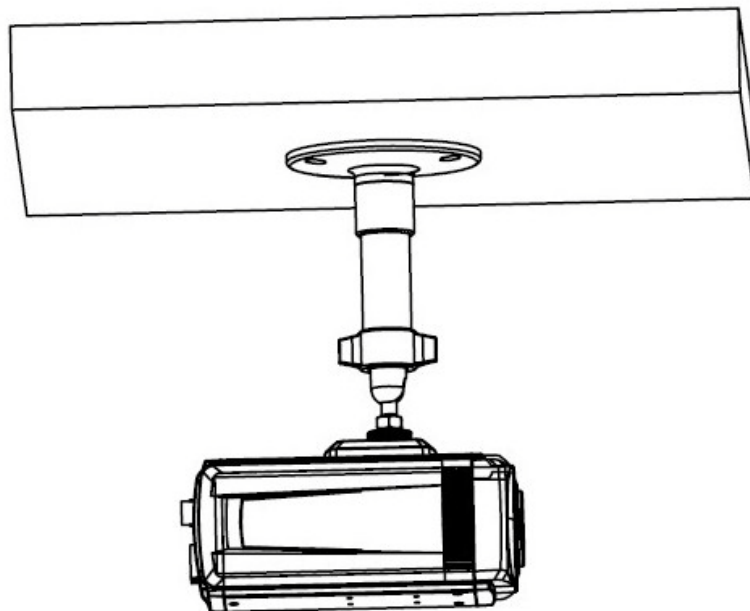

Fig. 2.1 Install the camera
1. Select the mounting method, and mount camera bracket according to the mounting method. For cement wall, first you need to mount expansion screw (the mounting holes of it needs to be the same with bracket), then mount the bracket, shown as figure 2.1. For the woodiness wall, then skip the first step, and mount the bracket with self-tapping screw. Please note that the mounting wall needs to sustain the weight 3 times heavier than the sum weight of camera and bracket.